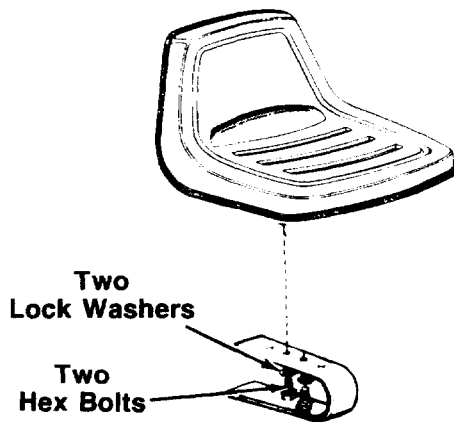

FIGURE 14.
1. The seat may be adjusted to three different positions. Select desired position and secure to seat spring with two hex bolts and lock washers. See figure 14.